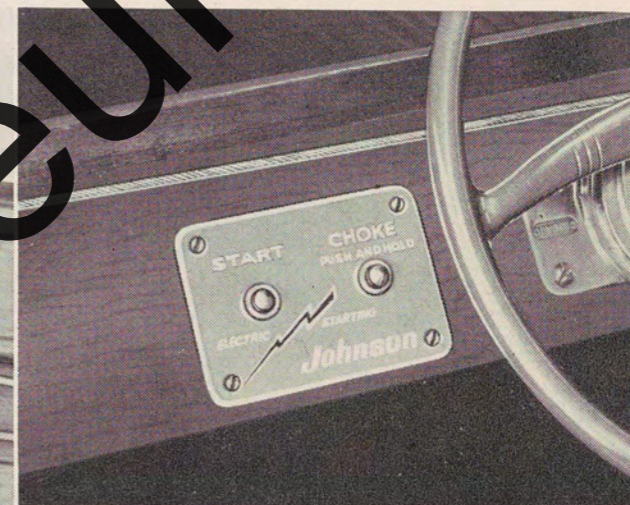

Figure 10
6. COLD MOTOR—Press choke and starter buttons at the same time to start motor (Figure 10). After starting, additional choke may be required until motor warms up. (In temperatures below 40° F. turn high speed dial to number 6 to start. After starting readjust high speed dial to number 4.)
- COLD MOTOR—Press choke and starter buttons (Figure 10) at the same time to start motor. After starting, additional choke may be required until motor warms up. (In temperatures below 40° F. turn high speed dial to number 6 to start. After starting, readjust high speed dial to number 4.)